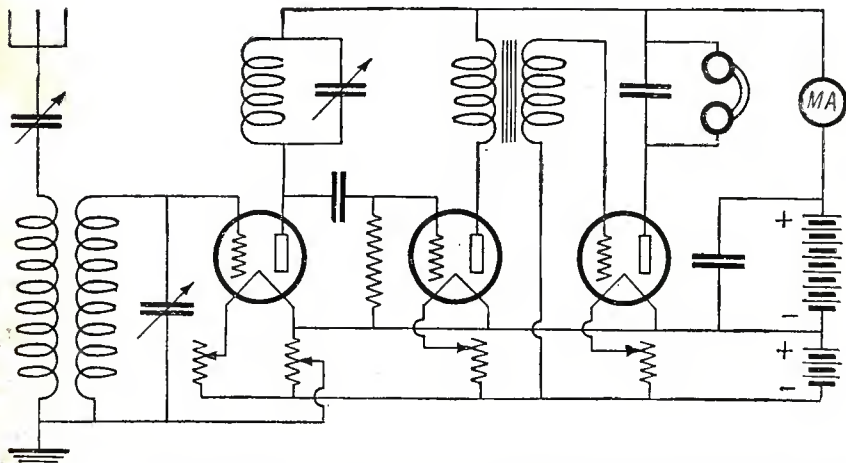

Fig. 1. How a milliammeter is connected in the circuit to register the amount of current flowing in the "B" battery circuit.
The interference caused by other radio services can be combatted in one of two ways. The receiver can be made more selective, or the constants of the antenna system so adjusted as to provide sharper tuning. The first method is, of course, particularly applicable to the single circuit type of receiver. It is an inherent characteristic of this circuit to be broadly tuned. In other words, not only the desired signals are picked up, but those of neighboring frequencies are unpleasantly audible at the same time. Let us consider a remedy. In Fig. 1 we have a typical single circuit receiver, variously called a "Copp" circuit, direct coupled and conductively coupled receiver. It is readily seen that any incoming energy affecting the antenna circuit, A, L, VC, and G, simultaneously affects the grid circuit, provided its frequency is somewhere near the range of the inductance L. No provision is made for adjusting the frequency of the grid circuit, therefore, it obtains "shock excitation" at any frequency affecting the antenna system. This makes for broad tuning and the consequent lack of selectivity.
By the addition of one coil to the circuit of Fig. 1, as shown above, selectivity can be greatly increased.
**W**HEN asked by a beginner what is the most useful instrument to buy, the writer always recommends the purchase of a milliammeter and strongly advises that it should be kept wired in series with the "B" battery when the set is working, in the way shown in Fig. 1. If this is done, one has one's finger, so to speak, always on the pulse of the set and one's search for faults when they occur is considerably narrowed down. Take for example the case of a set such as that shown in Fig. 1. The milliammeter reading when the set is working perfectly is taken and noted down for future reference. Let us suppose that it is two milliamperes. If at any time signals become weak the first thing to do is to glance at the pointer of the instrument. Should it still register two milliamperes we know: (a) that there is nothing wrong with the plate circuits; (b) that the tubes are above suspicion as regards at any rate three out of their four connections (filament and plate); (c) that we need not look to batteries or battery connections for the source of the trouble; (d) that there is no short circuit or broken circuit on the high tension side of the set. This narrows down the field of the search to quite small dimensions. The fault, if it is not in the phones, must lie either in the grid circuits, which include grid condenser, grid-leak and transformers, or in what we may call the tuning part of the set. So far as transformers are concerned we are limited to the secondaries, for their primaries are in the plate battery circuit. By the tuning part of the set is meant (1) the antenna; (2) the ground; (3) the antenna inductance, and antenna condenser; (4) the closed circuit inductance and closed circuit condenser. The grid circuits can be tested out very easily. Begin with the audio frequency tube. Increase the negative potential of the grid biasing battery and watch the milliammeter. If current passed decreases, this grid circuit is as it should be. If not there is a fault. Test the detector in the same way by removing the grid leak and connecting the grid battery in its place. The radio frequency tube may be tried simply by moving the slider of the potentiometer from end to end. If there is no fault the milliammeter will register an increase as it moves towards the positive end. Having thus tested all the rest of the set nothing remains but the antenna and ground and the fault will be found in one or other of these.